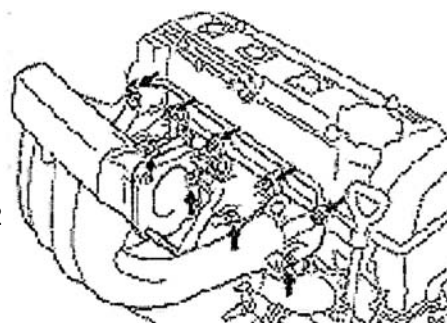

Figure 33
56. Install intake manifold. See (Figure 33)